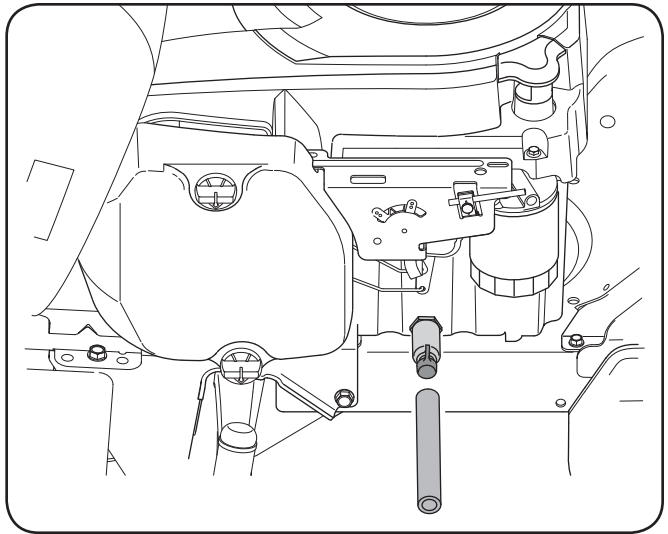

Figure 6-2
3. Pop open the protective cap on the end of the oil drain valve to expose the drain port. See Fig 6-2.